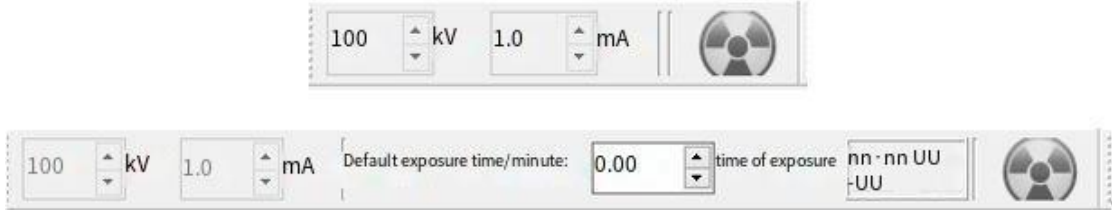

Fig. V-86 Disable Shooting Mode (upper), Enable Shooting Mode (lower)
After the "shooting mode" is chosen, the setting area is expanded in the toolbar (Fig. V-86), the user can set up the preset exposure time, which will be closed at the fixed time after the ray is enabled. Ray excitation caused by "Image (P)" → "Acquisition" in the menu bar or the acquisition tool.....in the toolbar will not turn off the ray at the fixed time.